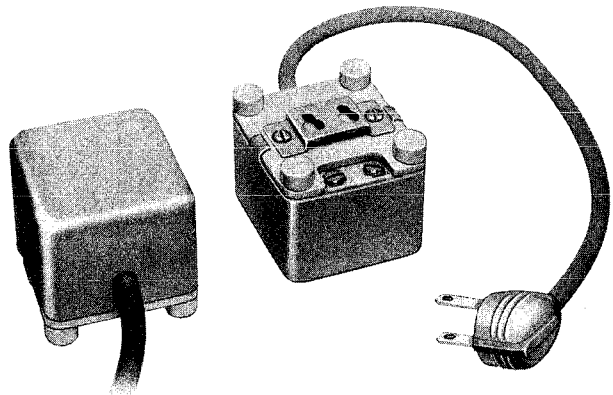

Fig. 6—2075A Transformer
5.01 The 2075A transformer (Fig. 6) supplies power (15 to 18 volts) for the 41A dial in the 660-, 662-, 663-, and 664-type telephone sets.